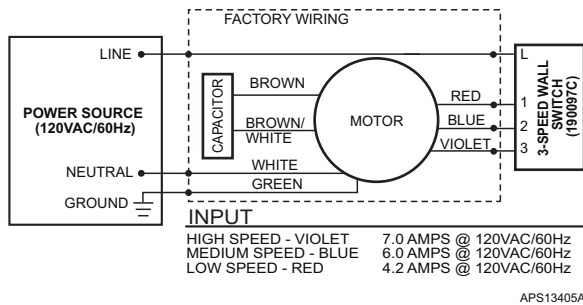

Fig. 8. F120A Series 2.
2. Connect the electrical wiring as shown in Fig. 8.